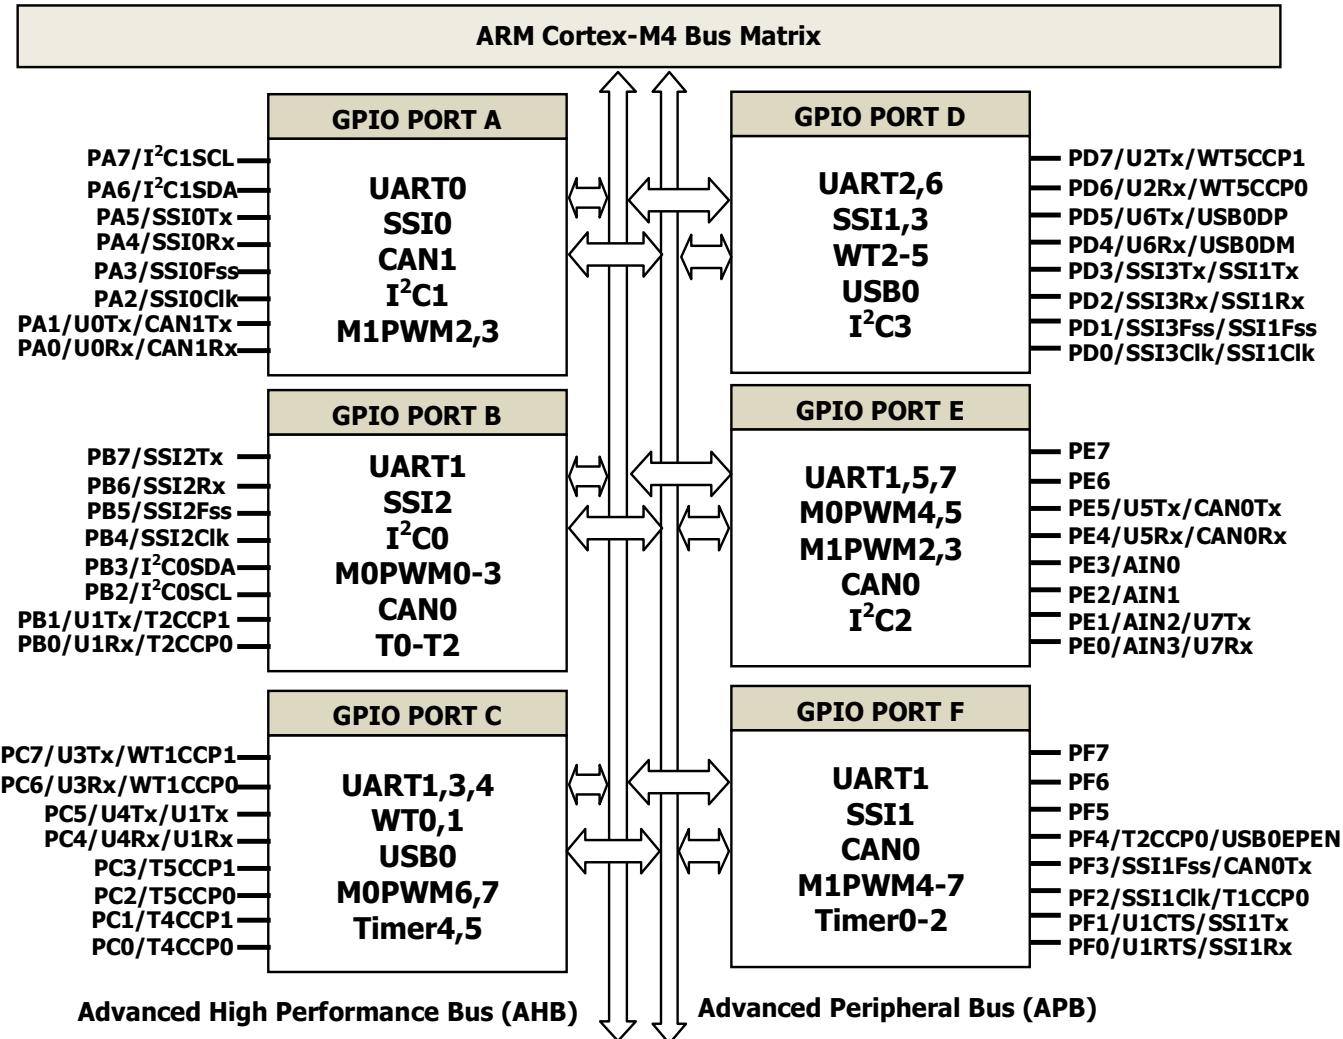

Figure 8.1 GPIO Port and pin configuration.
- Figure 8.1 shows a functional block diagram for GPIO Ports A ~ F and all related pins used in the TM4C123GH6PM MCU system.
- It is found from Figure 8.1 that **each pin** in each GPIO Port provides multiple or alternative functions. The actual function for each pin is determined by the combination of the **GPIOAFSEL** and the **GPIOCTRL** together.
- It can also be found from Figure 8.1 that all GPIO Ports are involved in serial peripheral control and interfacing functions, such as **SSIO ~ SSI3**, **I2C0 ~ I2C3**, **USBO**, **CAN0 ~ CAN1** and **UART0 ~ UART7**.